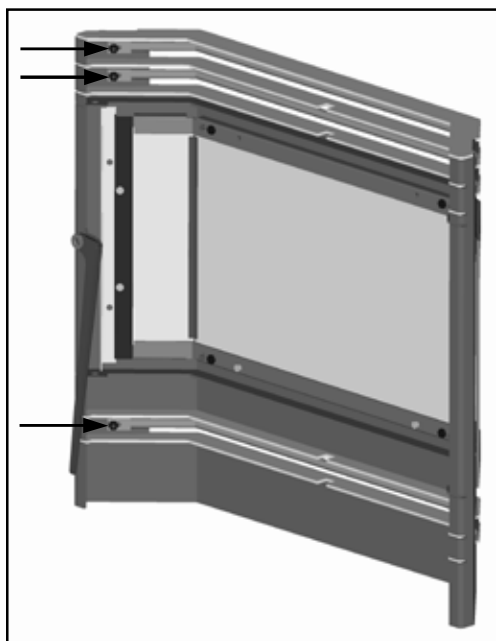

Figure 37: Door with louvers.
Door must be open. The three (3) arrows in Figure 37 point to three (3) of the nuts that hold the louvers on. There are three nuts on each end. Remove the six nuts by hand; if the nuts are tight, a  $1\frac{1}{32}$ " socket can be used. When removing the louvers, pull one end of the louver up over the stud. If it is difficult to remove the louver, push on one side from the front, then pull the other end off the second stud.